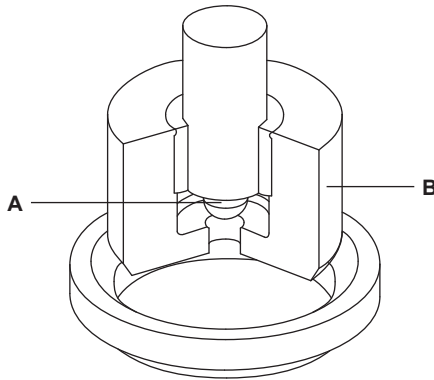

Fig. 2
- (See Figure 2) The pre-lifting plug (**A**) acts as a pilot valve and is opened first, allowing the medium to pass through at a controlled rate. The differential pressure then reduces across the valve - allowing the main valve plug (**B**) to be easily lifted off its seat. To assist closing the valve the flowing medium must enter on the 'Bellows' side, this is the opposite to normal installation.